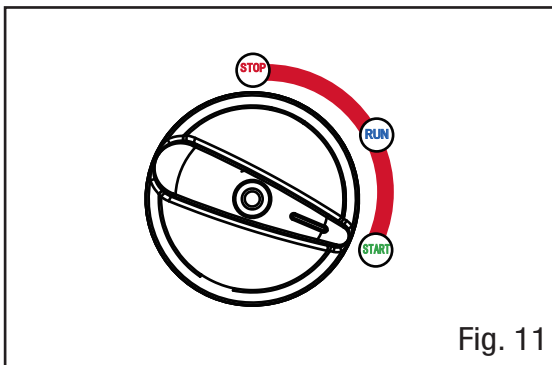

Fig. 11
2. Turn the Multi-Switch to the “START” position. (Fig. 11)